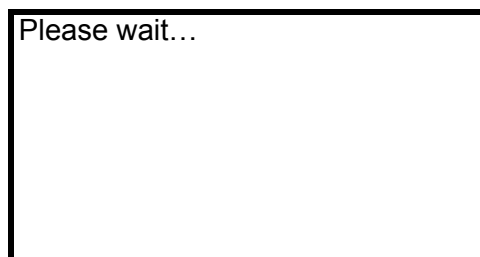
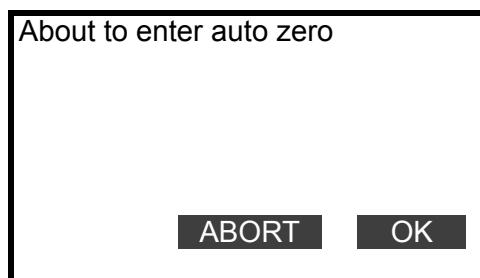

Figure 31 Please wait message
Figure 32 Zero point adjustment start message
4. When Auto zero is selected, a “Please wait” message will momentarily appear. (Figure 31) The display then changes to that shown in Figure 32. To adjust the zero point, press F4 (OK). The zero point is then adjusted. By pressing F3 (ABORT), the procedure is canceled and you are returned back to the Diag/Service menu.